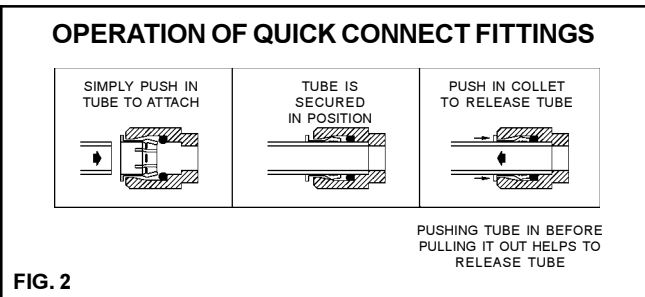

FIG. 2
**Actuation of Quick Connect Water Fittings:** Fountain is provided with lead-free connectors which utilize an o-ring water seal. To remove tubing from the fitting, relieve water pressure, push in on the gray collar while pulling on the tubing.(see Fig.2) To insert tubing, push tube straight into fitting until it reaches a positive stop, approximately 3/4".